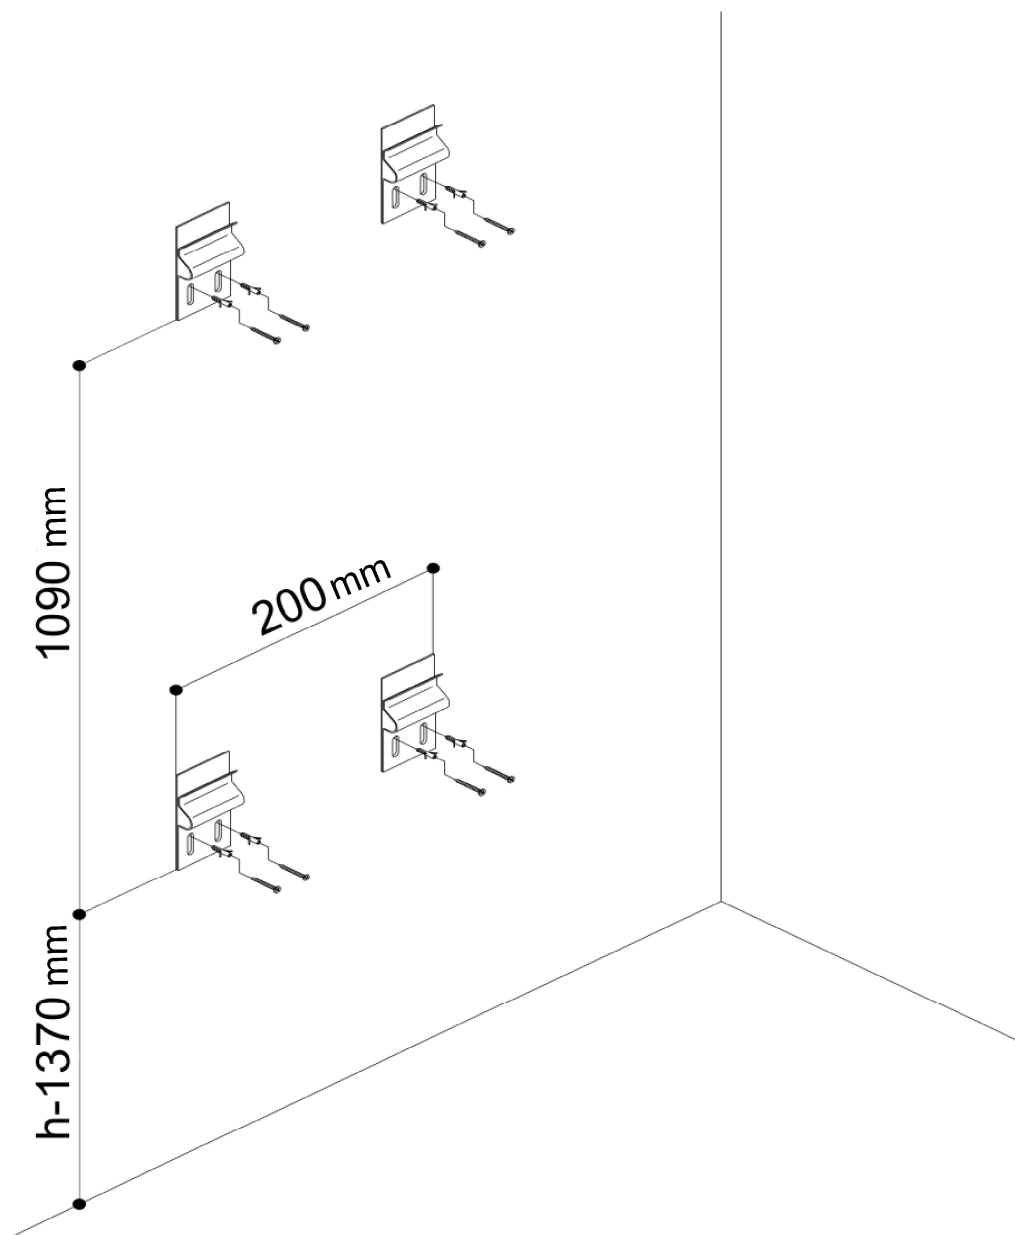

Fig. 1
- Mark the position of the fixing stands on the wall. (Fig. 1)
- Fix the stands to the wall using their respective screws. (Fig. 1)